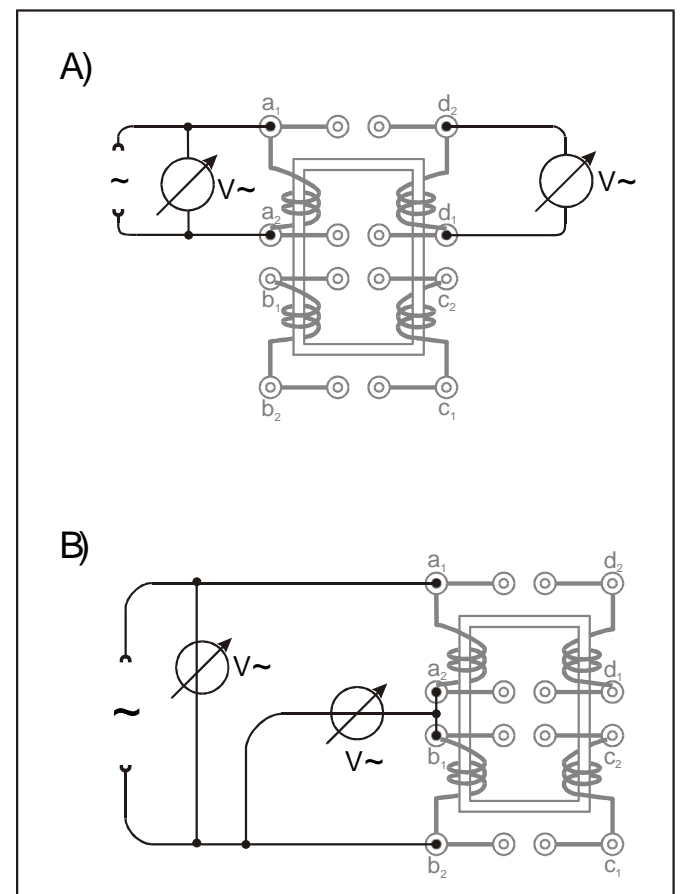

Fig. 4: A) Wiring diagram for investigation of an isolating transformer with the ratio $N_1 : N_2 = 150 : 150$.
A schematic representation of the setup for an isolating transformer is shown in Fig. 4 A).
A schematic representation of the setup for an autotransformer is shown in Fig. 4 B).
- Setup an isolating transformer with ratio of the number of turns $N_1 : N_2 = 150 : 150$ as shown in a) of Fig. 4.
- Setup an autotransformer with ratio of the number of turns $N_1 : N_2 = 300 : 150$ as shown in b) of Fig. 4.
The setup b) in Fig. 4, i.e. the autotransformer, is a different type of transformer where electrical isolation does not occur because of a part of the windings on one core forms the primary and secondary coil at the same time. For this reason the transformer is also called one-coil transformer. This transformer type can be used as voltage converter only. In comparison to the isolating transformer the material savings of copper and iron can be significant if the difference between input and the output voltage is small.